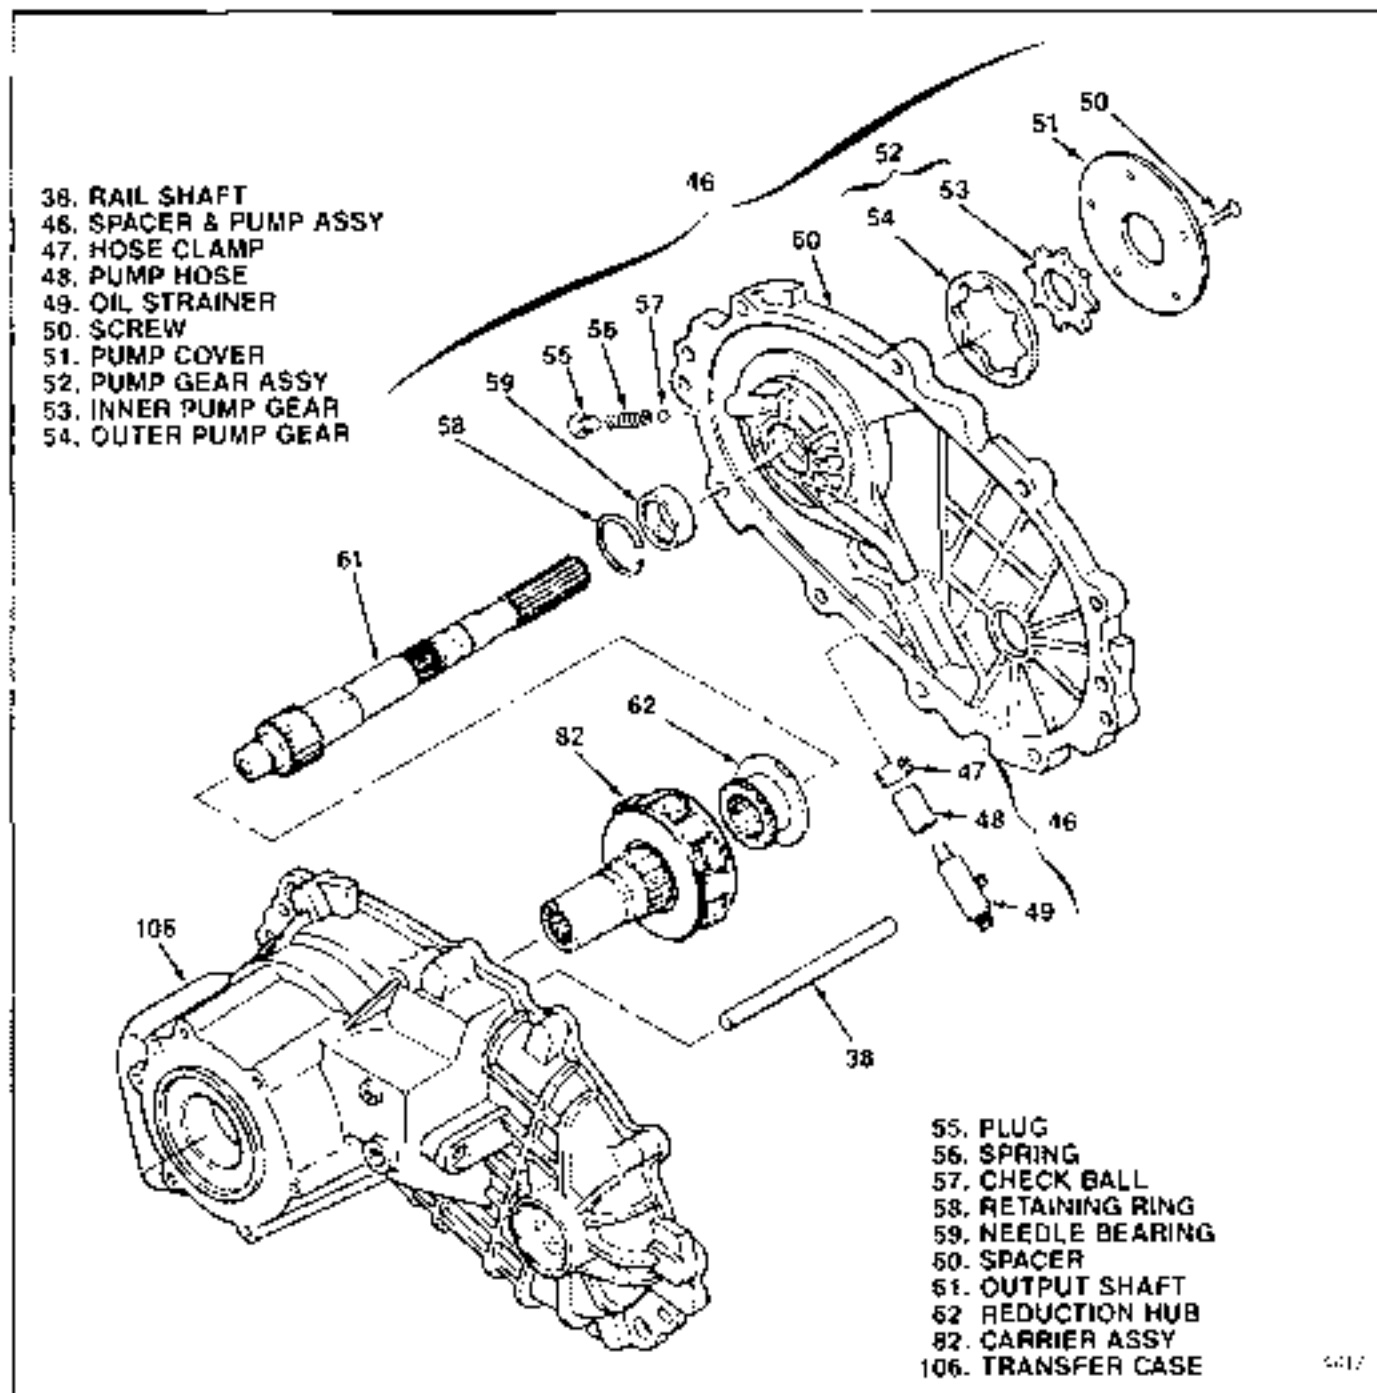
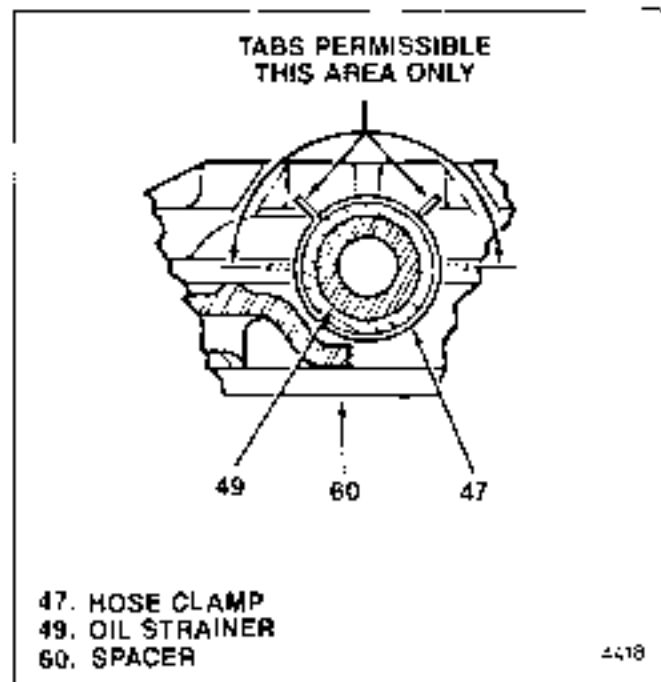

Figure 5-9. Spacer and Oil Pump Assembly
Figure 5-10. Hose Clamp Installation
**5-10. ASSEMBLY AND INSTALLATION OF SPACER AND PUMP ASSEMBLY.** Proceed as follows (see figure 5-9):
a. Install output shaft (61) in induction hub (62) and carrier assembly (82) previously installed in transfer case.
b. Install needle bearing (59) in spacer (60) and secure with retaining ring (58).
c. Apply Loctite No. 222 to threads of plug (55). Install check ball (57), spring (56) and plug (55) in spacer (60). Torque plug to 11-22 lb-ft. (13-30 Nm).
d. Liberally lubricate inner and outer pump gears (53 and 54) with transmission case lubricant and install pump gear assembly (52) in spacer (60).
e. Align holes in inner pump gear (53) spacer (60) and pump cover (51) and install pump cover. Attach cover with five screws (50). Torque screws to 1.7-7.9 lb-ft (20-95 lbm) (12.3-11.7 Nm).
f. Install hose clamp (47) over pump hose (48). Install one end of hose on oil strainer (49). Position strainer in cavity in spacer (60), at same time installing free end of pump hose over spacer part. Move hose clamp (47) to secure hose to spacer part, positioning clamp tangs as shown in figure 5-10.
g. Apply continuous 1/16 in. (1.6 mm) bead of sealant (Neutral Cure RTV, Loctite 598) all around transfer case (106) mounting face for spacer and pump assembly (46). Center sealant bead between edges of face. Circle bolt holes.
h. Install pump and spacer assembly (46) on transfer case (106), guiding spacer over output shaft (61) and rail shaft (38) previously installed. Turn output shaft as required to align flat with that on inner pump gear (53).